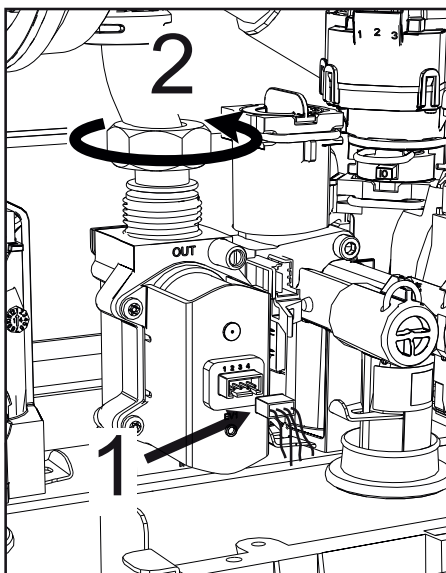

fig. 53 -
- Disconnect the electric connectors "1" ("fig. 53 -").
- Disconnect the gas supply pipe "2" ("fig. 53 -").